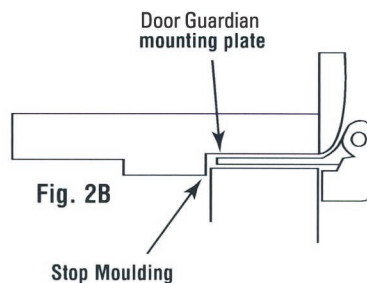

Fig. 2B
**NOTE:** Depth of the Door Guardian mounting plate should NOT EXCEED the depth of the stop moulding at the center of the jamb. (See Fig. 2B)